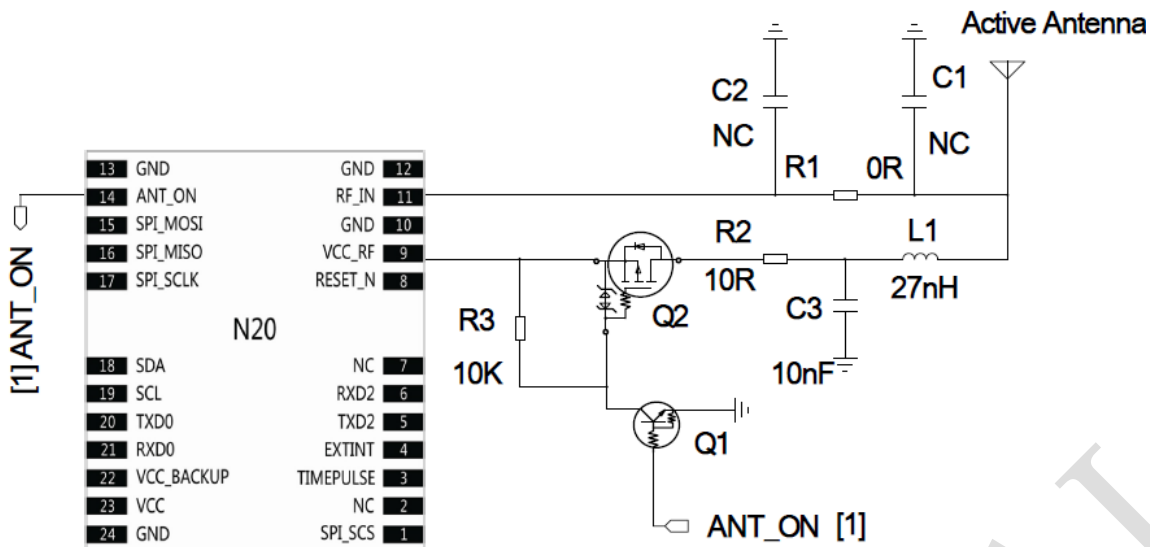

Figure 9 N20 Active antenna power consumption saving design
- N20 can also reduce power consumption by controlling the power supply of active antenna by pin 14 ANTON as shown in Figure 9. ANTON is an optional pin which can be used to control the power supply of the active antenna or the enable pin of an external LNA. When N20 module enters the standby mode, the ANTON pin will be pulled down, MOSFET Q1 and Q2 are in high impedance state and the power supply for antenna is cut off. In normal mode, the voltage value of ANTON is about 2.8V, it will make Q1 and Q2 in the on-state, VCC_RF will provide power supply for the active antenna. If not used, please keep ANTON pin open. For minimizing the current consumption, the value of resistor R2 should not be too small, and the recommended value is 10KR.